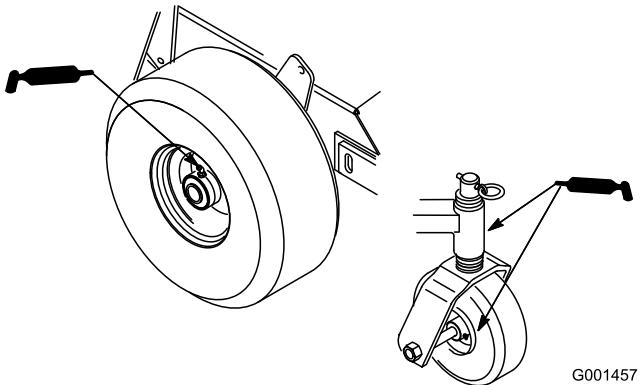

Figure 16
1. Lubricate the front wheel bearings and front spindles (Figure 16).